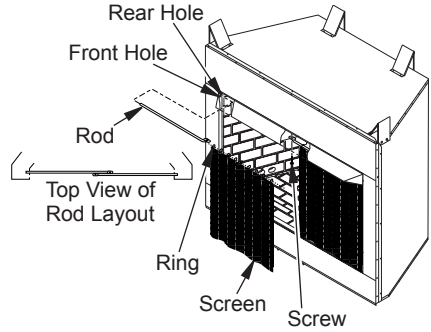

Figure 13 - Installing Fireplace Screen
3. Insert first rod into rear hole in left side of firebox. Fasten rod to rear hole near center of firebox using #10 x 3/8" Phillips screw provided (see Figure 13).